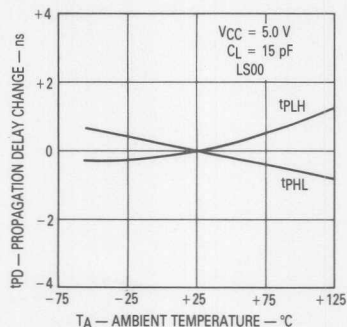

FIGURE 2-9
**AC SWITCHING CHARACTERISTICS.** The propagation through a logic element depends on power supply voltage, ambient temperature, and output load. The effect of each of these parameters on ac propagation is shown in Figures 2-9 through 2-11.